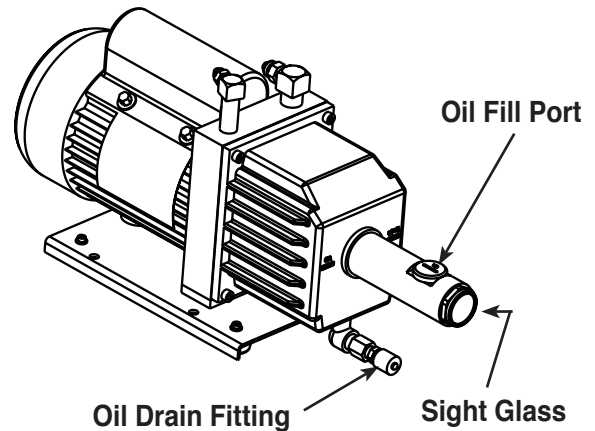

Figure 10
3. Refer to Figure 10, and remove the brass plug from the vacuum pump's oil fill port. (The pump drains faster when vented.)
5. Attach the flexible tube and cap to the oil bottle; pour five (5) ounces of vacuum pump oil into the fill port.